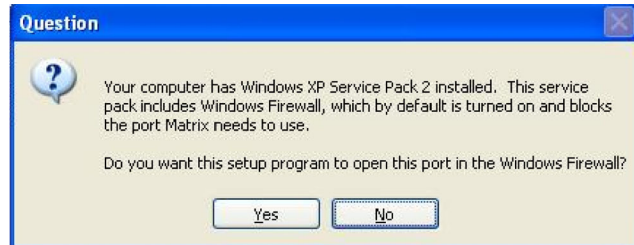

FIG. 25 Setup Path 2 - Firewall Question
- Setup checks for Windows XP Service Pack 2 installation. If Service Pack 2 is present, the pop-up shown in FIG. 25 appears. Choose **Yes** or **No** to continue.